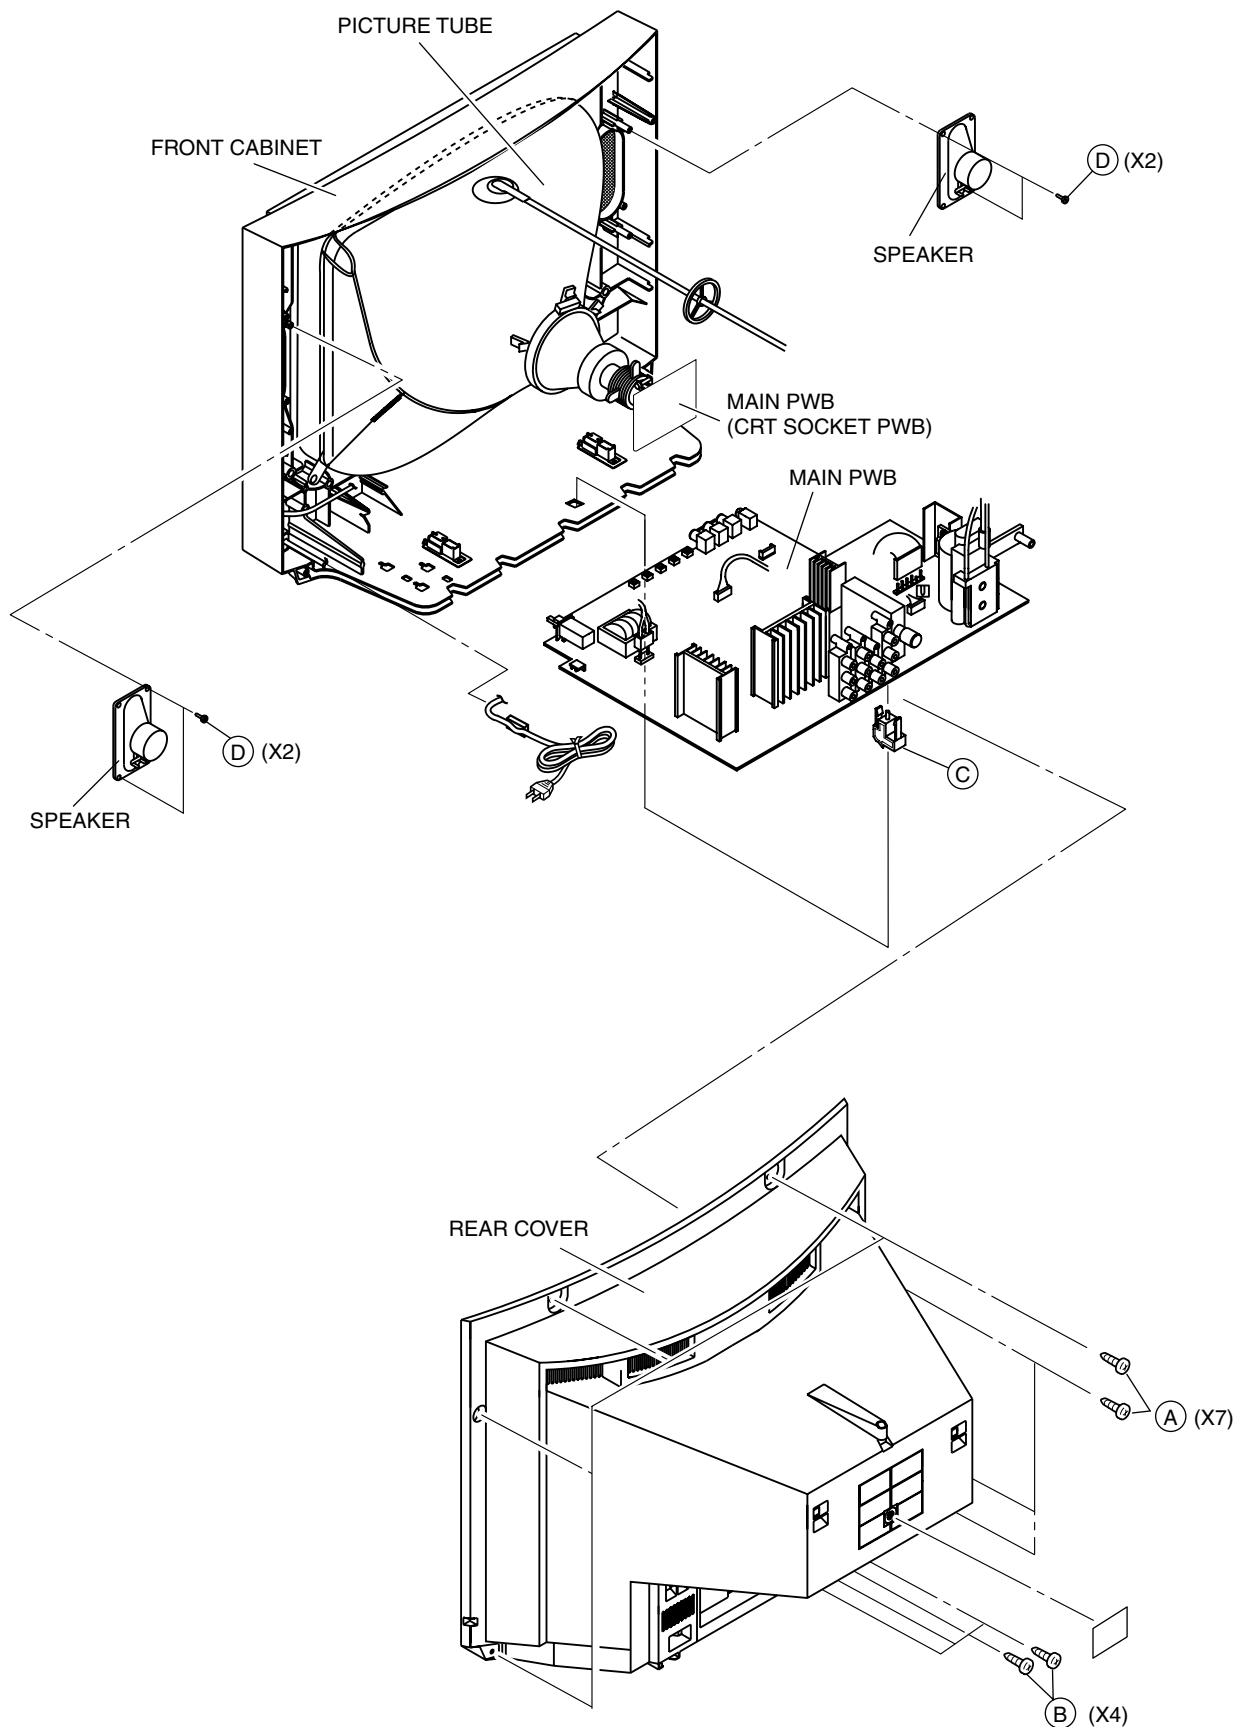

Fig.1
1. Remove the 2 screws marked (D) as shown in Fig.1.
2. Remove the 6 screws marked (A) and 4 screws marked (B) as shown in Fig.1.